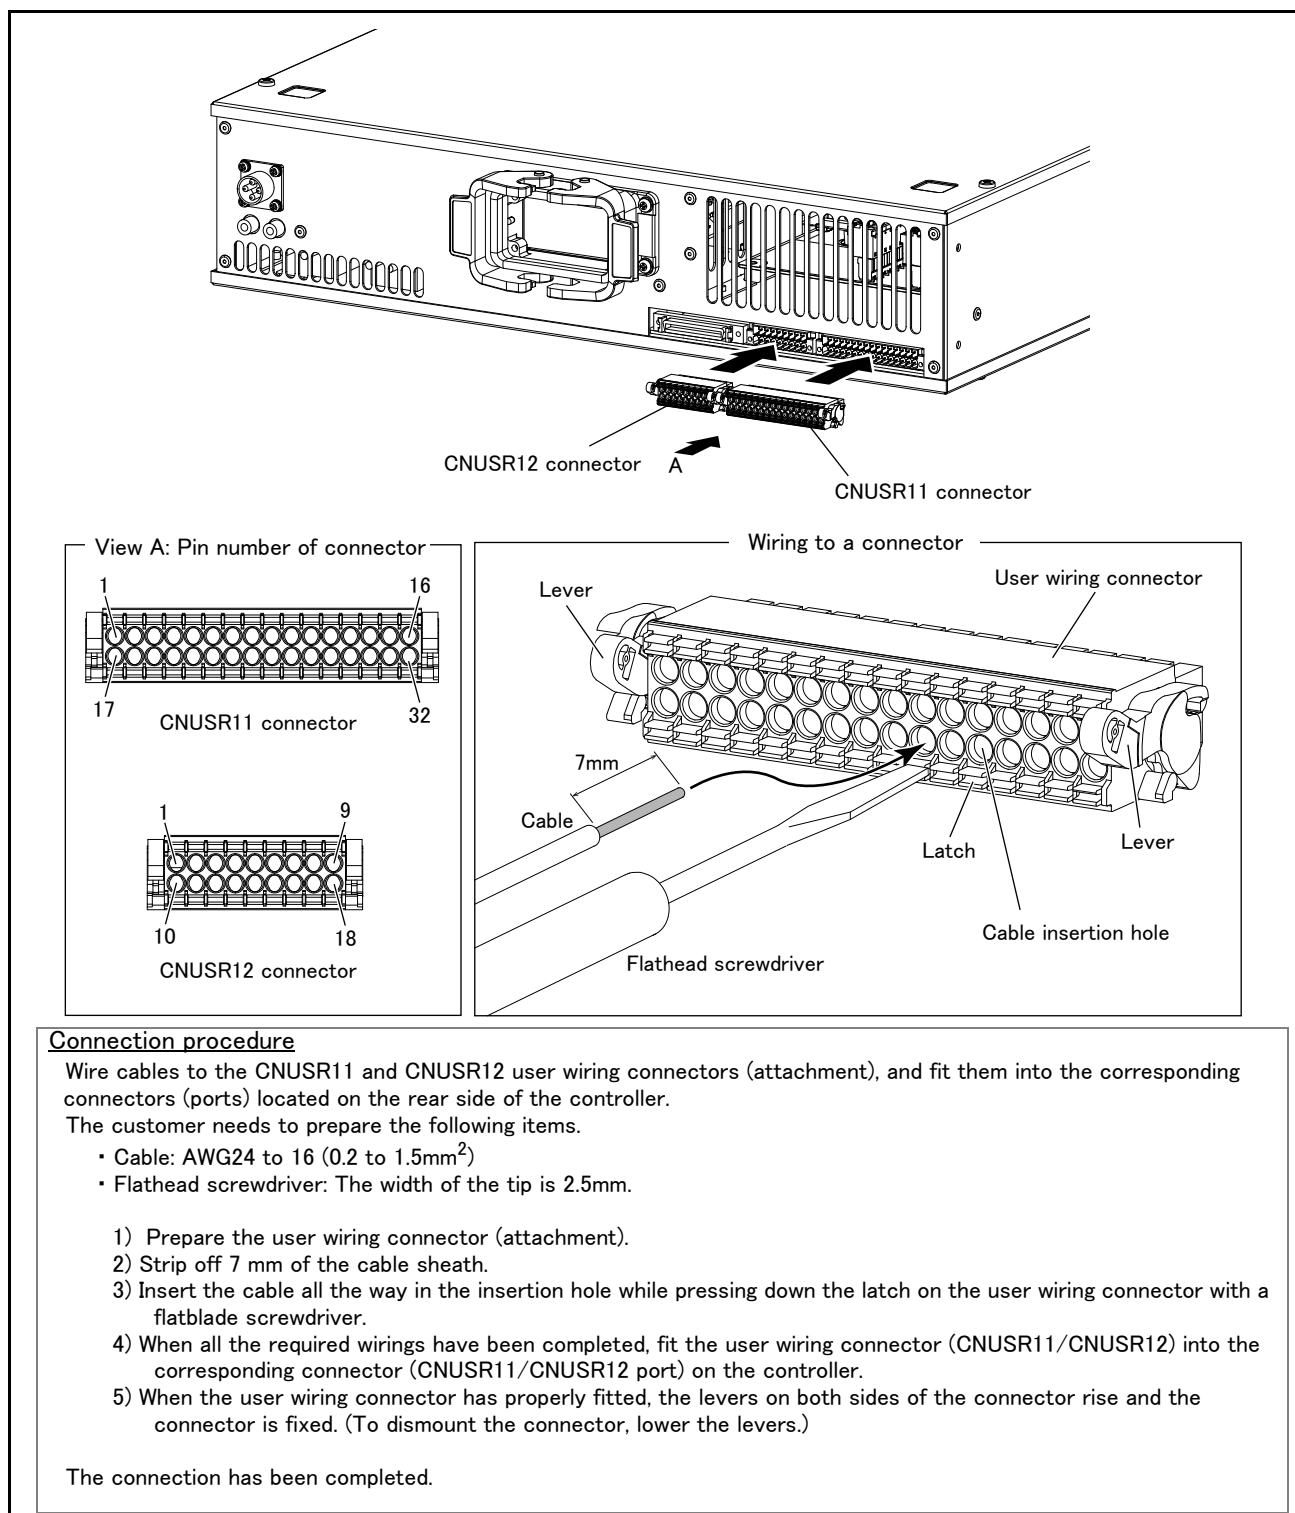

Fig. 2-12 : Wiring method to the user wiring connector
(2) Image of how to connect the controller connector
* Refer to Page 30 "Fig. 2-12: Wiring method to the user wiring connector" for more details about how to wire a connector.